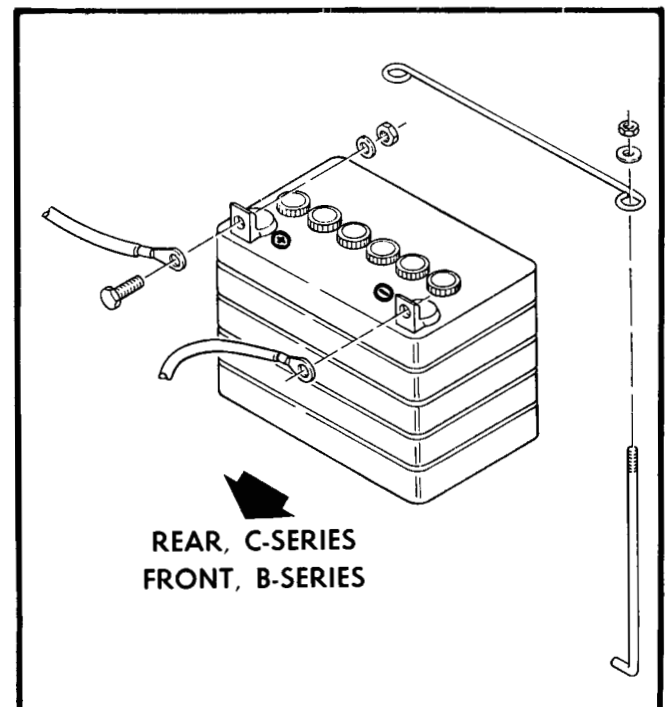
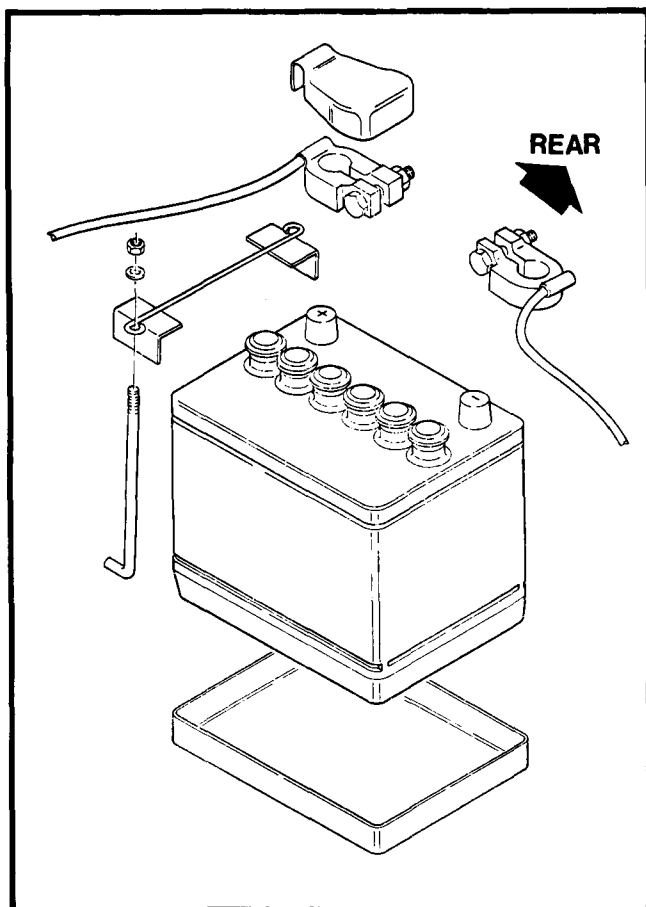

Fig. 2-6 B and C-Series Battery Installation
Fig. 2-7 D-Series Battery Installation
5. Reinstall the battery cables as shown in Fig. 2-6 and Fig. 2-7. Grease all exposed metal surfaces of the battery terminals.